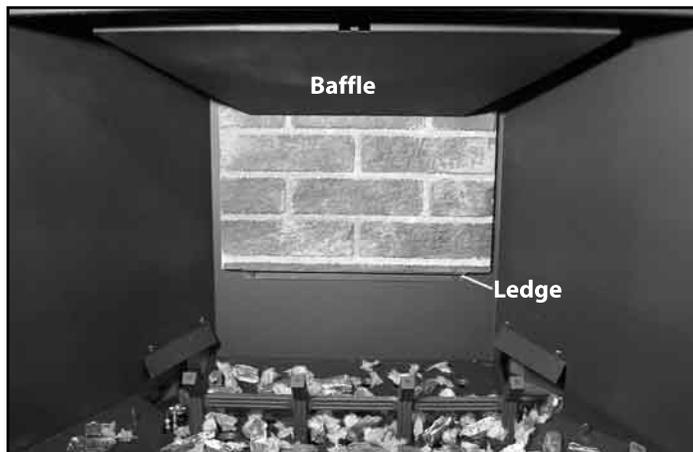

Figure 41. Back Panel In Place.
2. Slide center brick panel up behind the baffle (shown in Figure 41) and rest the bottom of the panel on the ledge.